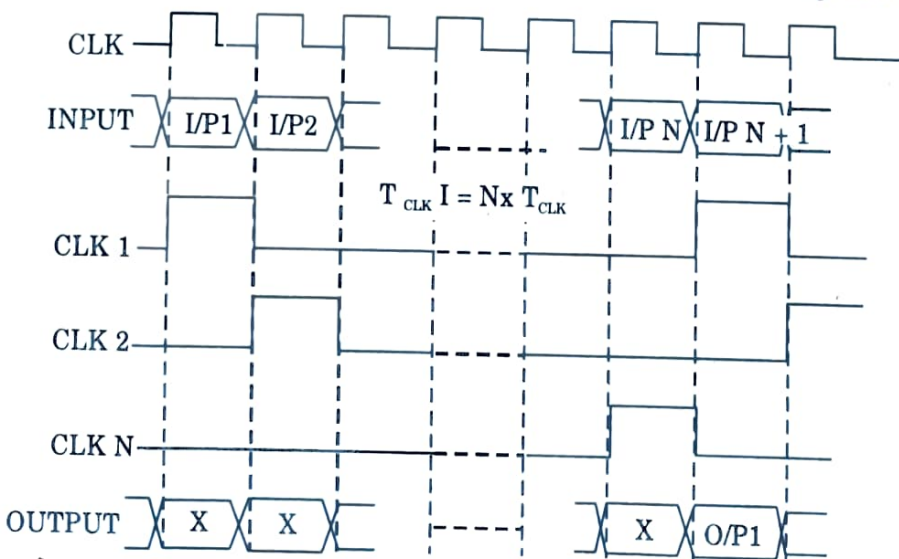

Fig. 4.17.2.
7. The timing diagram of this parallel arrangement is shown in Fig. 4.17.2.